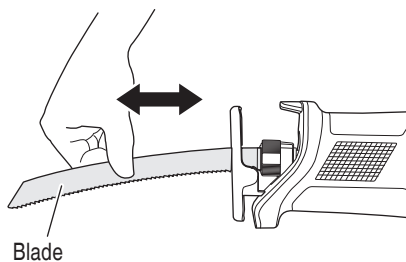

Fig. 9
- (4) Pull the back of the saw blade two or three times by hand and check that the blade is securely mounted. (Fig. 9)